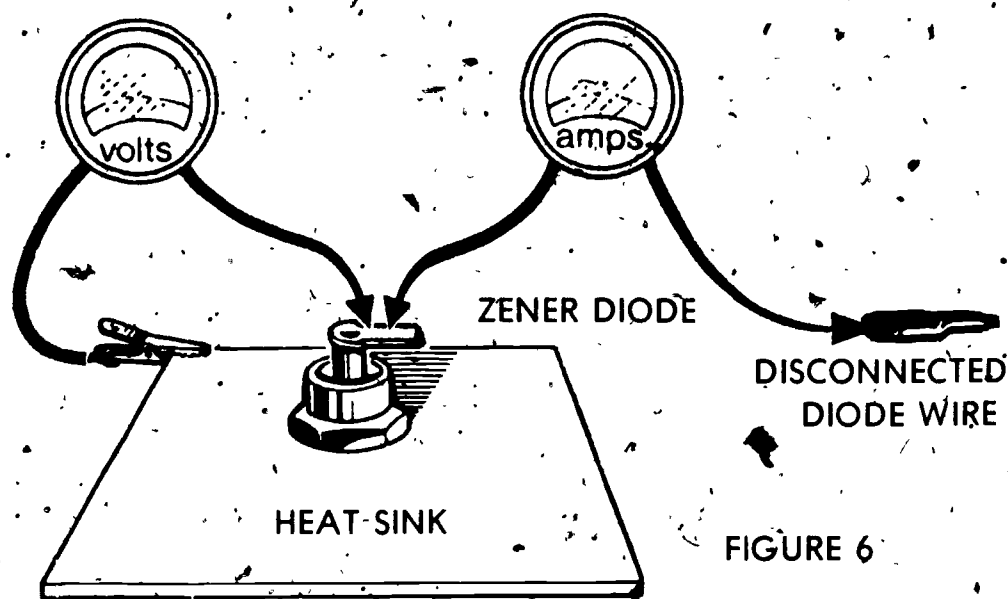

FIGURE 6
G. Test zener diode with ammeter and voltmeter (Figure 6)